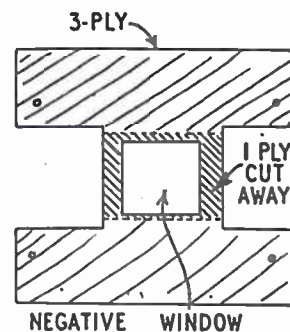

Fig. 2—The negative carrier
Piece (D) is also of three-ply, 6 ins. by 6 ins., and is cut as shown in Fig. 2. The negative window is the same size as the aperture in piece (A). One ply is then carefully cut away to leave a shallow